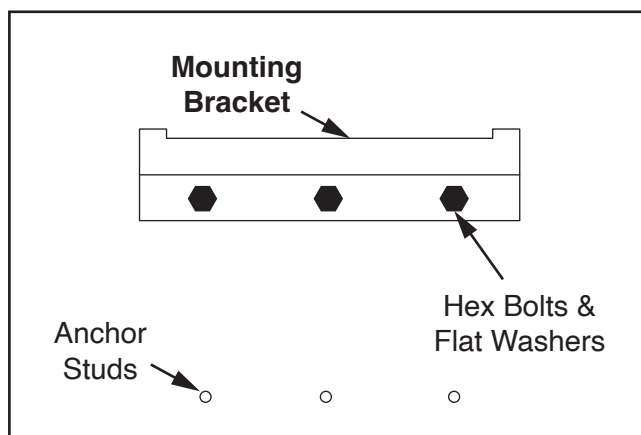

Figure 10. Anchor studs mounted to wall.
4. Insert top lip of impeller housing bracket into mounting bracket, use a pencil to mark holes for impeller housing bracket, then drill pilot holes (see **Figure 10**).
5. Mount (3) $\frac{3}{16}$ " x $2\frac{3}{4}$ " concrete anchor studs to wall in mounting hole locations (see **Figure 10**).